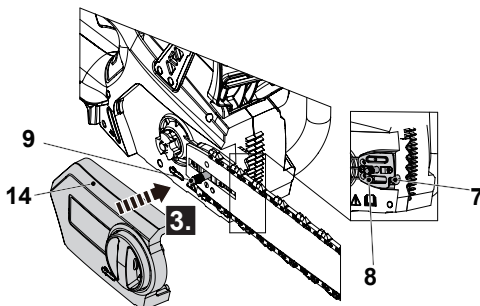

Fig. 5
7. Screw the tension screw (7) clockwise out to adjust the tension pin (8) / guide bar (12) towards the right to tighten the saw chain (11) with a Multitool (25), then align and place the chain saw cover (14) over the mounting bolt (9) (Fig. 5).